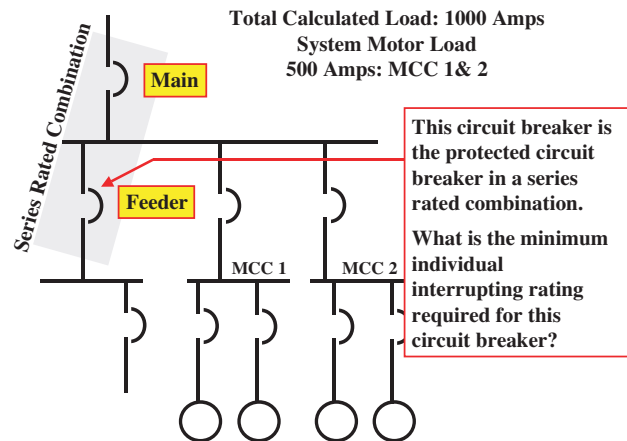

Figure 7
As an example of the implications of 240.86(B) look at Figure 7. On an installation with a 1000 amp total load, 50% motor load (which is motor load of 500 amperes), the motor contribution could be an issue in selecting a series rated combination. If a main/feeder series rating were to be considered, the feeder circuit breaker must have at least a 50,000 ampere individual or standalone interrupting rating per 240.86(B) (1% of 50,000 = 500). If the protected circuit breaker has to have an individual interrupting rating of at least 50,000 A, it negates the reason that series rated combinations are utilized for most applications.
Below is an easy to use table to evaluate the “protected” (load-side) circuit breaker in a series rated combination for meeting the motor contribution limits in 240.86(B). In the Figure 7 example, the motors that are connected that could contribute current where the feeder circuit breaker (“protected” device of the series combination) would have to interrupt but that the main circuit breaker (“protecting” device of the series combination) would not have to interrupt is represented by 500 amperes of normal full load current. Reading the table below, it is seen that 500 amperes full load motor current exceeds 420A in column A. Therefore, a series rating with a “protected” circuit breaker having a standalone interrupting rating of 42,000 A.I.R. is insufficient to meet 240.86(B). A series combination that uses a “protected” circuit breaker with a standalone interrupting rating of at least 50,000A would be required to meet 240.86(B). Note; do not confuse the standalone interrupting rating of the “protected” circuit breaker with the series combination interrupting rating. The series combination interrupting rating is the rating for both devices working together to interrupt short-circuit currents. The series combination interrupting rating is much greater than the standalone interrupting rating of the “protected” circuit breaker.